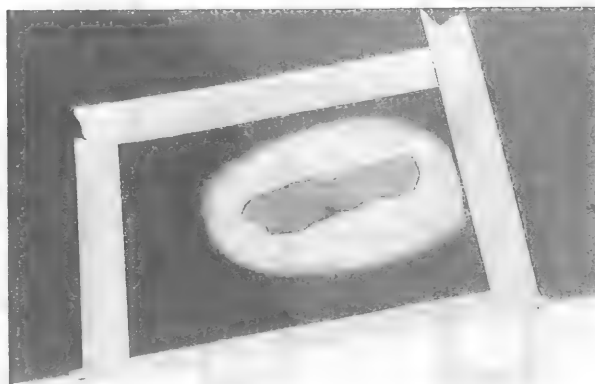

Figure 2-4. Resin Filler Sanded to Blade Contour
k. Use No. 00 fine sandpaper in flat, non-rotating vibrator sanding machine and sand resin smooth to blend with airfoil contour of blade. (See figure 2-4.)